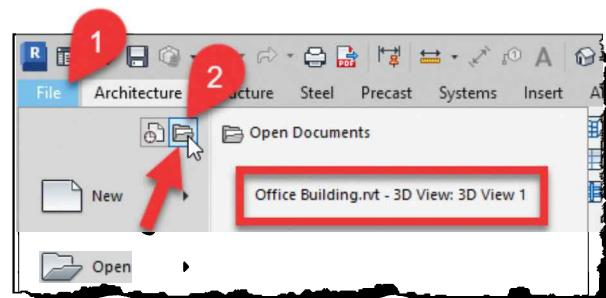

FIGURE 1-3.4 File Tab: Open Documents view
The *File Tab* lists the projects and views currently open on your computer (Figure 1-3.4).
4. Click **File Tab → Open Documents (icon)** (Figure 1-3.4).